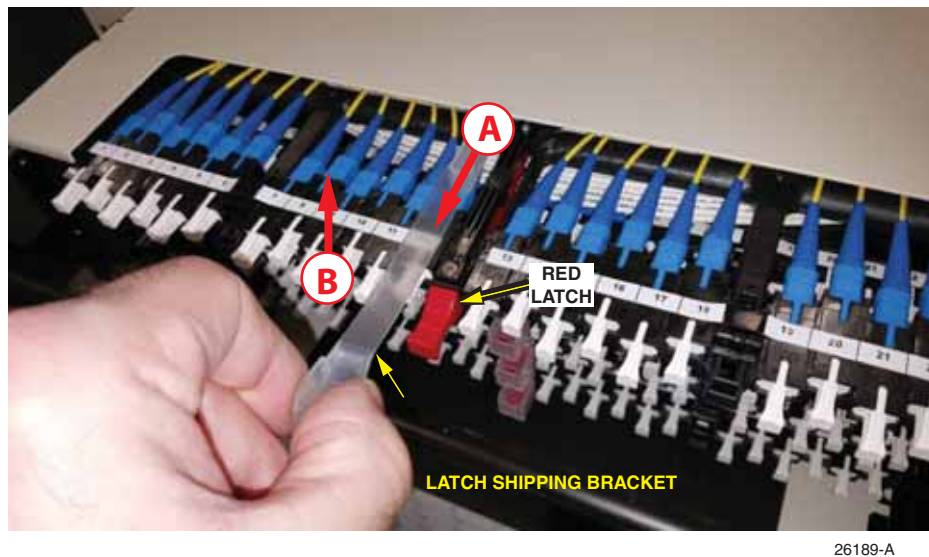

Figure 18. Removing Latch Shipping Bracket from Tray
5. Withdraw the latch shipping bracket (A) from the cable spool tray and lift it off (B) from the Rapid Fiber panel, as shown in Figure 18.